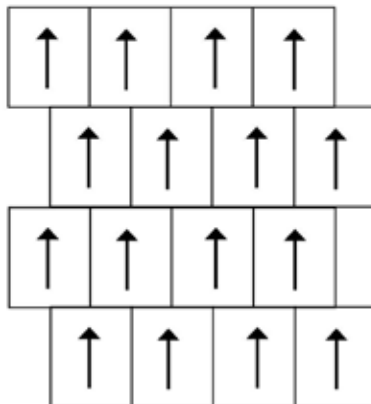

Figure 2
- For all collections, the tiles can be laid in the same direction, if installed in ashlar (brick-lay) pattern as in fig 2. Please note though, the comment above in relation to the Graphic collection.